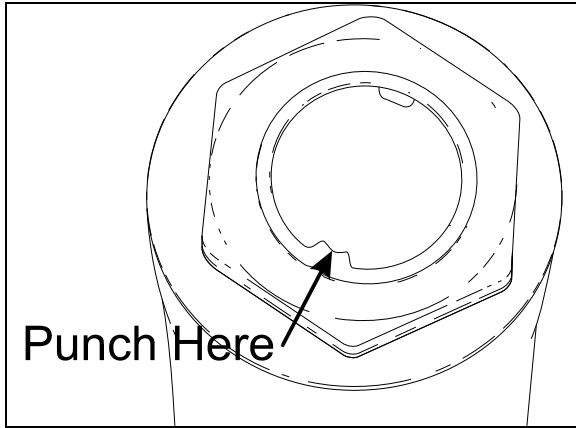

FIGURE 15: FIXING NUT PUNCH MARK 16098
1. Lock nut with sector shaft using a punch mark into the groove (Refer to figure 15).